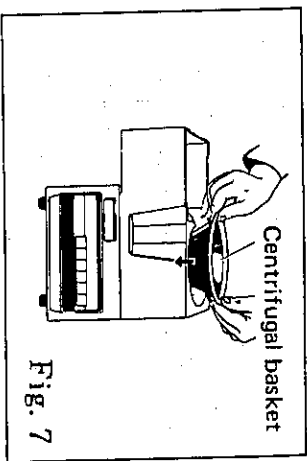

Fig. 7
- 2) Insert the Centrifugal Basket (Fig. 7). Turn it by hand, making sure that it rotates smoothly without touching any part of Cutter Case B.